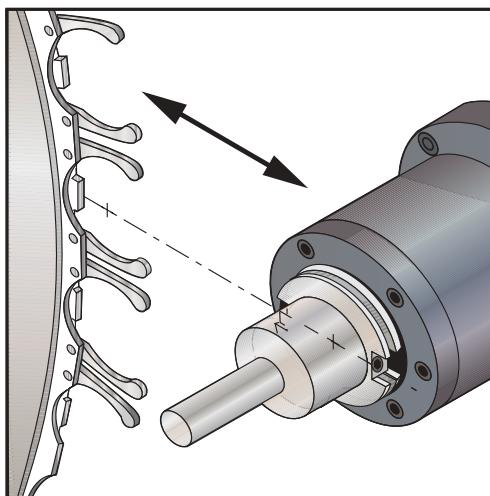

Figure 3.8-16
27. Handle Jog the spindle in the -Z direction (towards the front of the machine) and align the tool changer's fingers with the groove in the tool holder. Handle jog the spindle in the +X direction (towards the tool changer) and slowly move the tool holder into the extractor fingers. **STOP AND RE-ALIGN IF ANY MISALIGNMENT IS FOUND**. Continue to move the tool holder into the fingers until the drive notch on the side of the tool holder is approximately 0.050 in. from bottoming out on the carousel's alignment key. Refer to Figure 3.8-16.